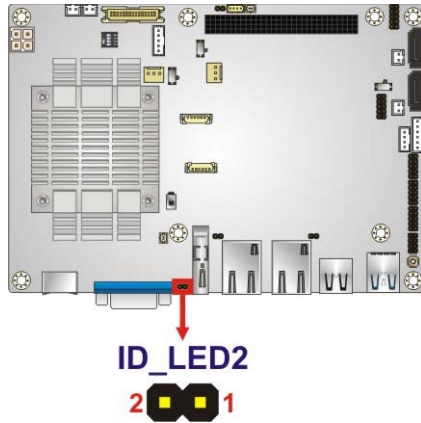

Figure 3-13: IPMI LED Connector Location
- CN Location:** See **Figure 3-13**